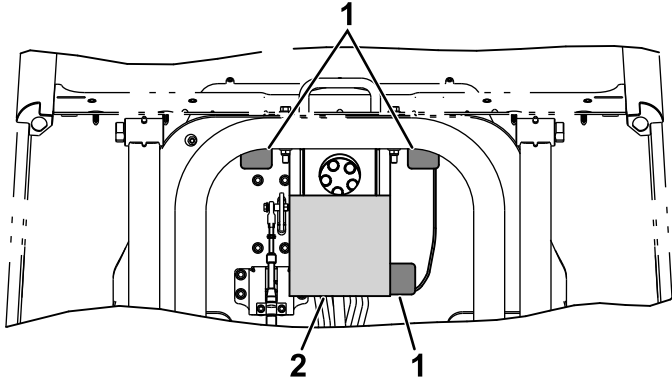

Figure 6
6. Remove the backing film and install the steering pad (Figure 6).
7. Remove the backing film and install the 3 mounting-tab plugs over holes in floor pan. (Figure 6).